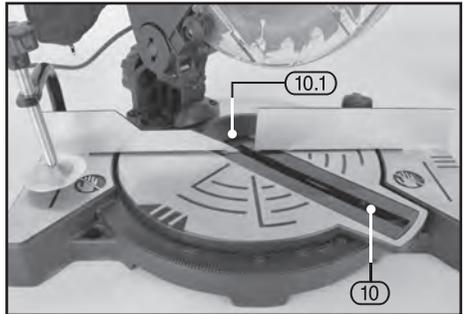

FIG. 12
8.10 TABLE INSERT REPLACEMENT – FIG.12